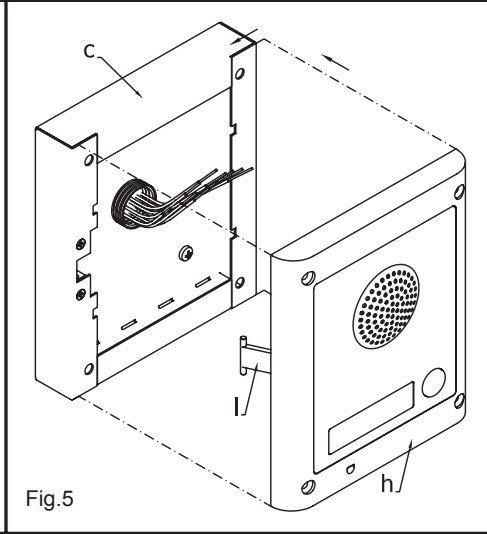
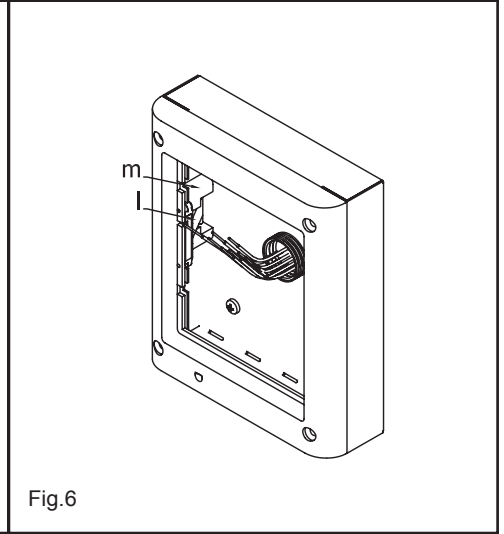

Fig.5
Fig.6
5. As shown in figure 5, hook the module support frame h (complete with modules) to surface box c moving the frame as suggested from pointers. Ensure that the pivot i (fig.5) goes inside the relevant housing n as shown in figure 6.